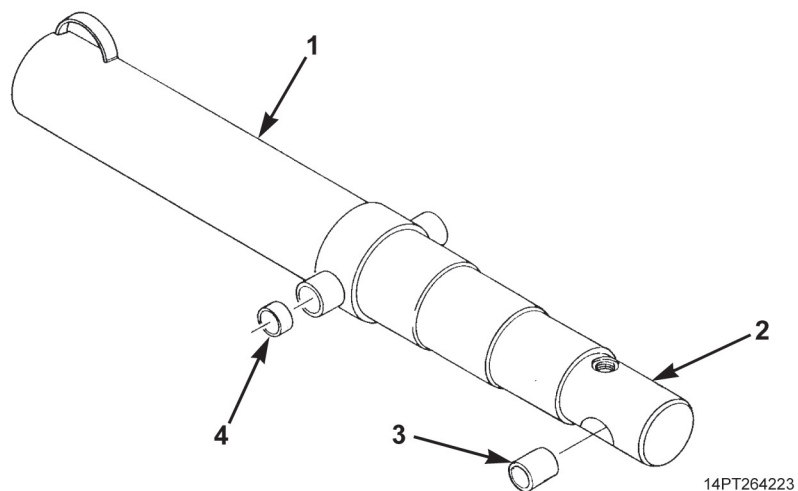

Figure 20. Bushing Installation.
1. If removed, install two bushings (Figure 20, Item 4) in barrel (Figure 20, Item 1) and bushing (Figure 20, Item 3) in plunger (Figure 20, Item 2).